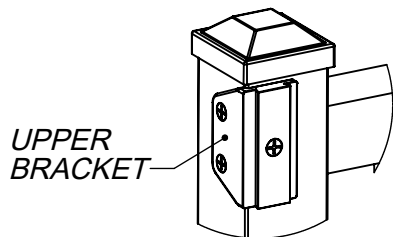

Figure 2
STEP 2: Install the Upper Bracket using (3) Flat Head Screws as near to the top of the Fence Post as possible (Figure 2).